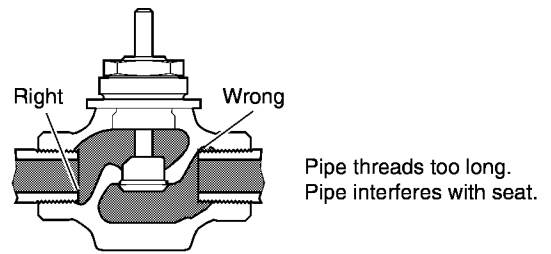
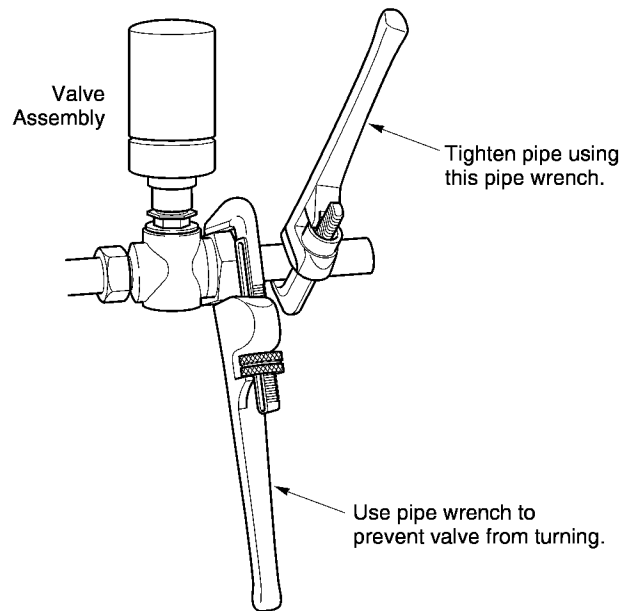

Figure-3 Normal Thread Engagement.
Figure-4 Installation of Screwed End Valves.
3. Use a pipe wrench to fully tighten the valve to the pipe. Do not over tighten or strip threads. See Table-8 and Figure-3 for the normal engagement length of the threads. Figure-4 shows a means of tightening the pipe so that the valve is not twisted or crushed.